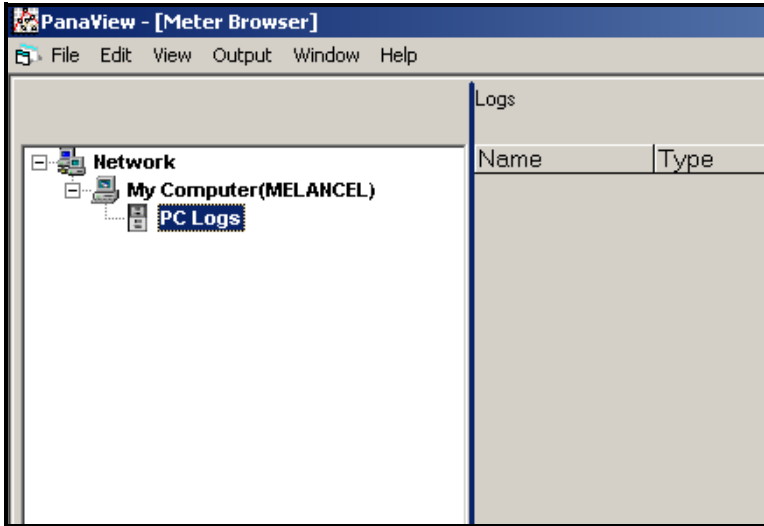

Figure 28: The PC Logs Branch
2. Fully expand the network tree by clicking on the “+” sign next to the *My Computer(Name)* branch (see Figure 28).
1. Open the “*New Meter Browser*” window and expand the network tree as shown in Figure 28 on page 39. Then, highlight the *My Computer(Name)* branch by clicking on it.